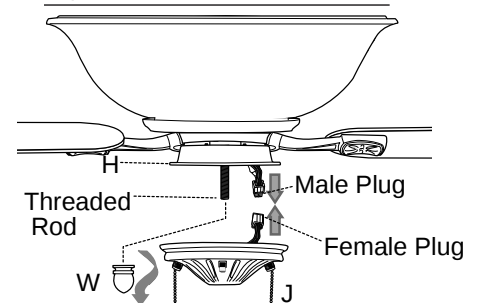

Fig. 7
7. Remove finial (W) from threaded rod on switch housing plate (H). Save for later use. Raise switch housing (J) up toward switch housing plate (H). Connect male plug from motor housing (D) to female plug from switch housing (J) and carefully arrange wiring inside of switch housing (J) [Fig. 7] Make sure that the plugs are connected completely.